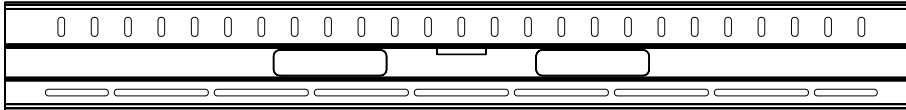
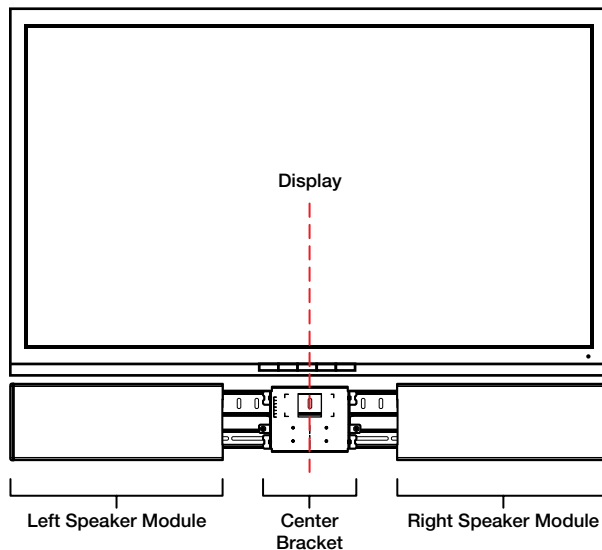

Figure 4. Wall Plate
Figure 5. Display Screen and SB 33 A Alignment
1. Position and level the included wall plate (see figure 4 on the following page) under the display screen (see figure 5 on the following page) and mark the locations of the wall studs through the top vertical slots and bottom horizontal slots where screws (not included) will secure the SB 33 A speaker wall plate to the wall.